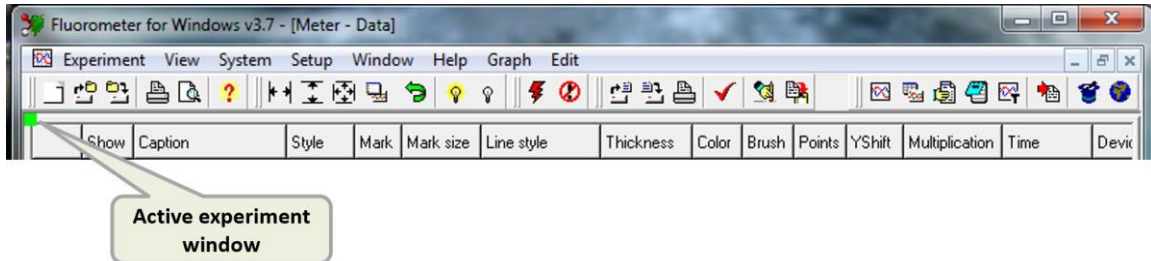

Fig. 18 Active experiment window.
- The software can open more experiments simultaneously. Only one of these opened files can be active. This active experiment is marked with **green square in the left upper corner** in DataSet table window or Graph window (Fig. 18). If the active experiment was closed or is required to be changed, use menu Window > Make Active. This command will activate the experiment which is displayed on the screen at the moment. The green square will appear in its window subsequently. After start of the active experiment a **red square** appears next to green one to indicate Busy state.